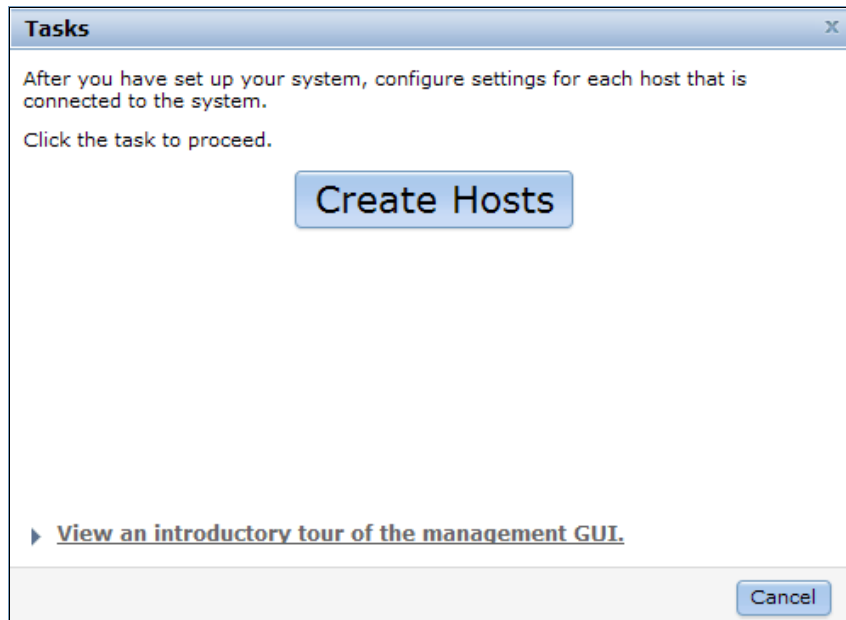

Figure 4-28 Create Hosts
8. After you have set up your system, configure settings for each host that is connected to the system. Click **Create Hosts** to continue as shown in Figure 4-28.